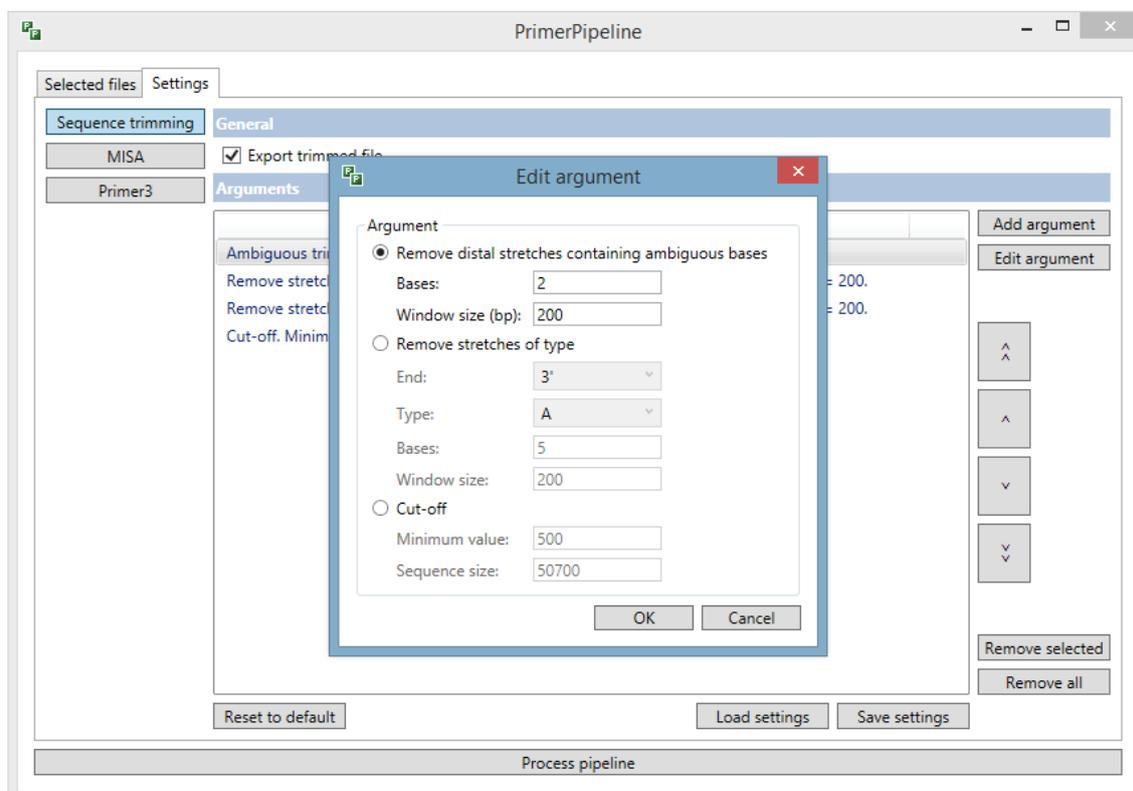

Figure 4. Sequence trimming *Settings* tab, with *Edit argument* clicked so you can edit all trimming parameters.
- To edit settings click *Edit argument*, a small window will open where you can change any of the settings (Figure 4).